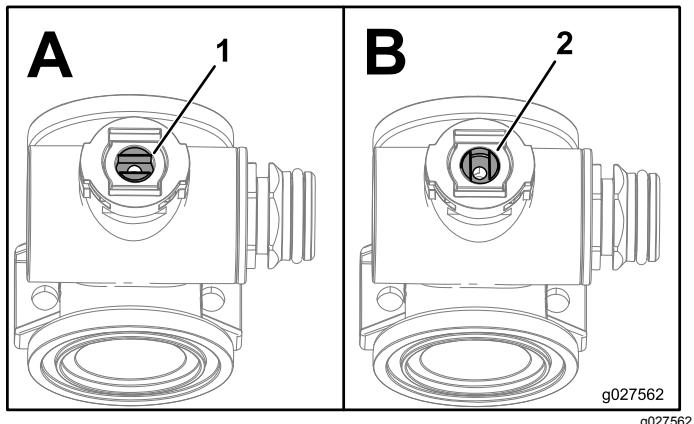

Figure 97
1. Position the valve stem so that it is in the closed position (B of Figure 97).
3. Turn the valve stem so that the ball is in the open position (A of Figure 97).
7. Turn the valve stem assembly so that the valve is closed (B of Figure 97)